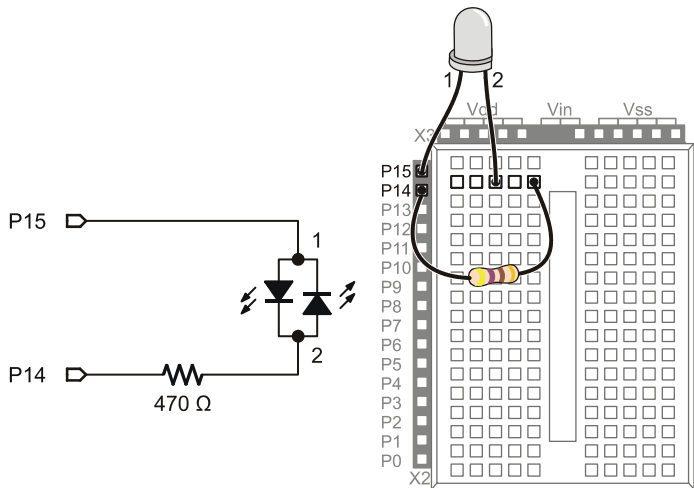

Figure 2-19
Controlling a bicolor LED with the BASIC Stamp requires two I/O pins. After you have manually verified that the bicolor LED works using the manual test, you can connect the circuit to the BASIC Stamp as shown in Figure 2-19.
- ✓ Connect the bicolor LED circuit to the BASIC Stamp as shown in Figure 2-19.